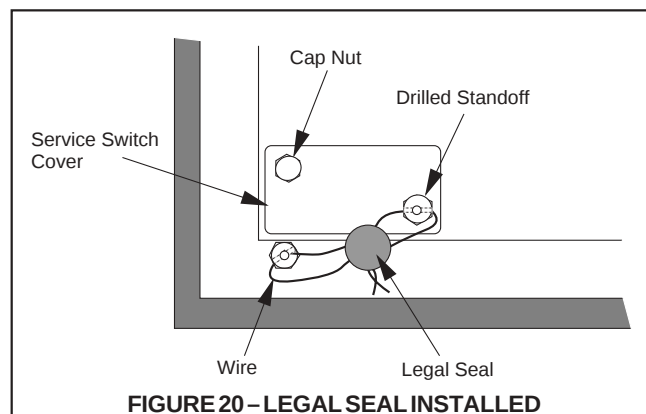

FIGURE 20 – LEGAL SEAL INSTALLED
- (1) Set the Operate/Setup Switch to the OPERATE position.
- (2) Remove the backing from the switch cover gasket and apply the gasket to the switch cover.
- (3) Install the switch plate as shown and tighten hardware to 6 lb-in.
- (4) Thread the wire for the seal through the holes in both stand-offs and twist the ends of the wire together.
- (5) Install the seal on the wire loop as shown in Figure 20.